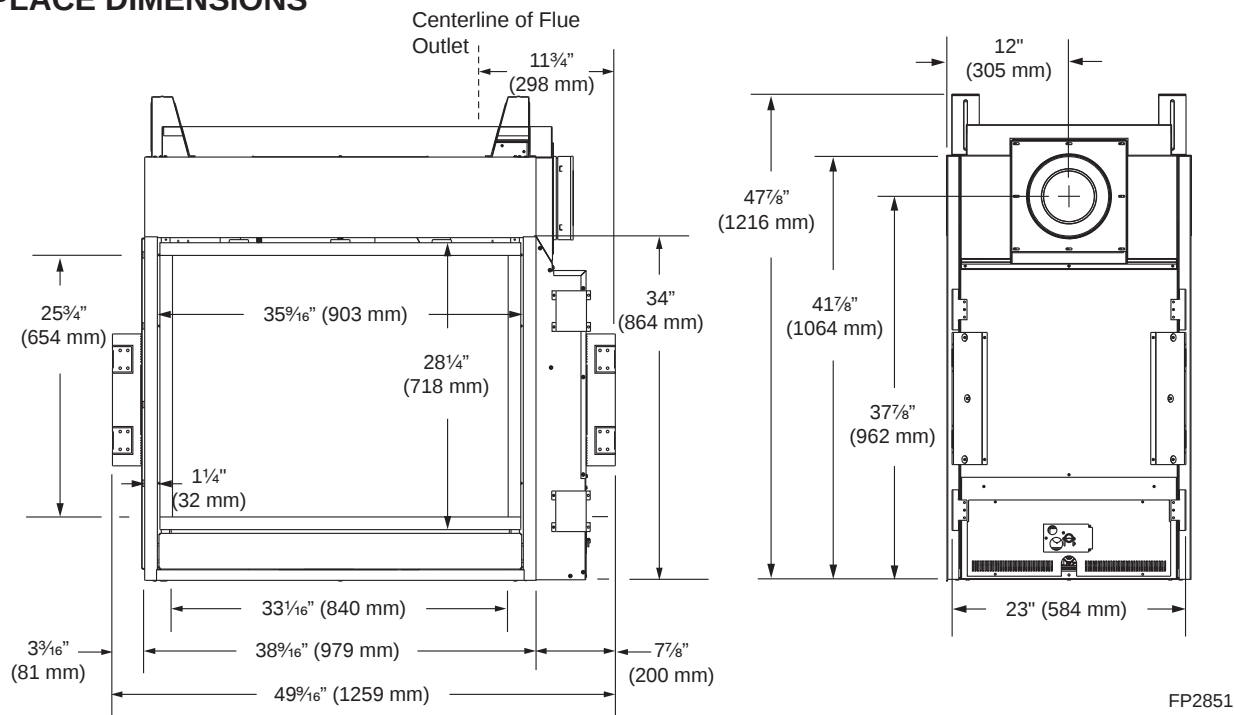
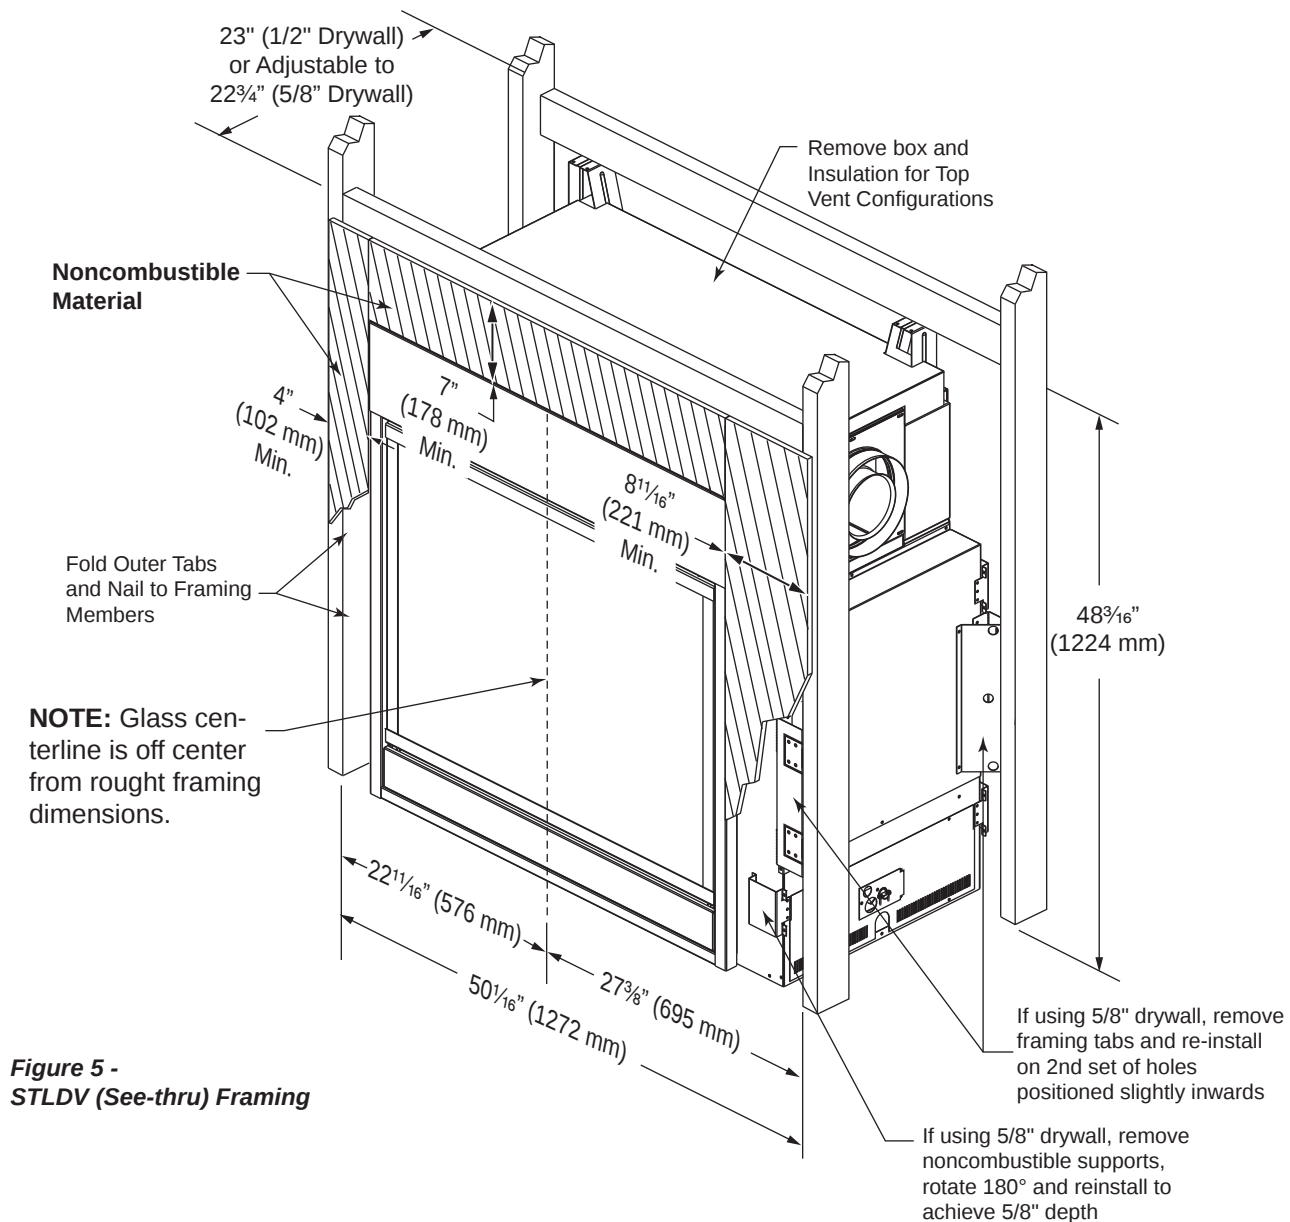

Figure 2 - STL DV (See-thru) Fireplace Dimensions
Figure 5 -
The fireplace must be secured to the floor and/or to framing studs as shown in *Figure 5*. Use four (4) wood screws or masonry/ concrete screws to secure fireplace to the floor. Use four (4) screws to attach fireplace to framing. The side brackets or nailing flanges are designed to accommodate two wall boards thicknesses, 1/2" or 5/8".
The area above and on the sides of the fireplace must be a noncombustible material. *Figures 5, 6, 7*
NOTE The area above and on the sides of the fireplace must be a noncombustible material. Figures 5, 6, 7
NOTE: The Vermont Castings Group Model BPWC500 mantel is specially designed to comply with all mantel temperature requirements. Any custom-built mantels must comply with the framing clearances and the use of non-combustibles as shown in *Figures 5, 6 and 7*.
Firebox framing can be built before or after the appliance is set in place. Construct firebox framing following *Figure 5, 6 or 7* for your specific installation requirements. The framing headers may rest on the top of the firebox stand-offs. Do not bring headers below top of standoffs. **NOTE:** When planning your framing and installation, keep in mind that the gas line and electric power come in on the same end of the fireplace. Refer to Figures 2, 3 & 4 for fireplace dimensions.